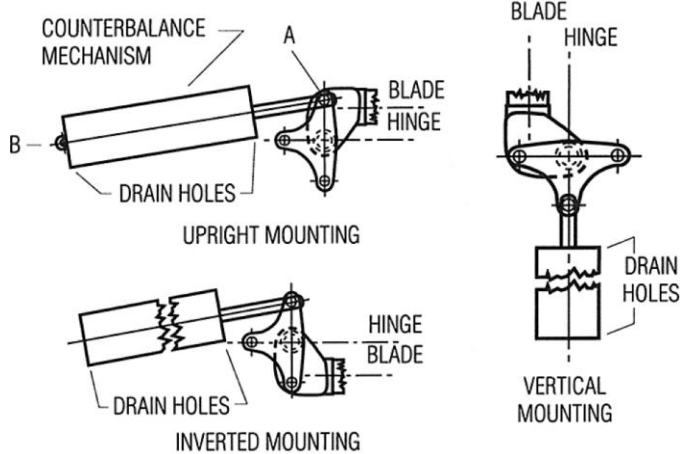

Fig. 12 Positions of Blade Counterbalance Mechanism
For voltage or current ratings in which blades are counterbalanced, Fig. 12 shows proper connections and the proper location of the drain holes for the various switch mountings. The counterbalances are assembled at the factory for the mounting positions as required for each installation. If it is necessary to change the mounting position of the switch in the field, the counterbalance must be changed, as described below.
4. Remove pin A (Fig. 12) which attaches the plunger to the blade hinge casting. Since this pin is larger in diameter at the center and two shoulders hold it in place, the pin may be a bit difficult to remove.
5. Remove pin B (Fig. 12) at the rear of the counterbalance. The unit is now freed to be inverted.